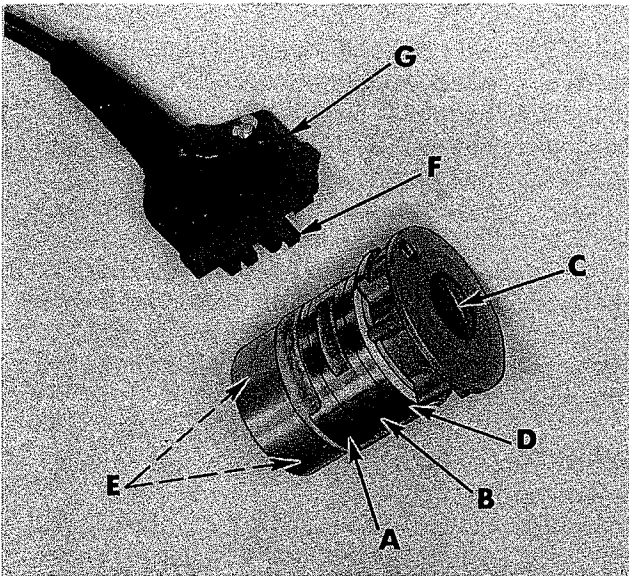
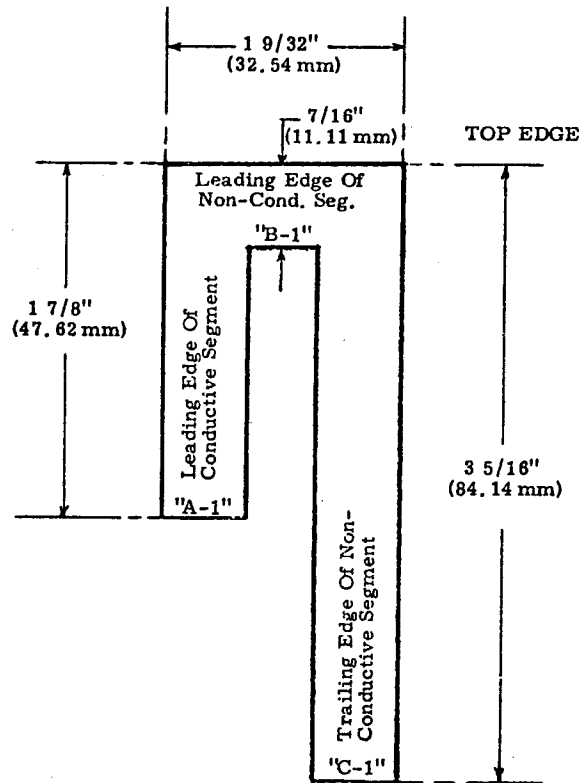

Fig. 38
Fig. 39
The synchronizer is composed of three slip rings and four carbon brushes. The hub, band (A, Fig. 38) is fixed on the synchronizer and controls the "cutting mechanism". Band (B) is adjustable by means of screw (C) and controls the "needle-up" position. Band (D) is also adjustable by means of screw (C) and controls the "needle-down" position.
Assemble the brush holder and bracket to the machine as shown in Fig. 1B and the synchronizer to the handwheel adapter. Do not tighten screws (E, Fig. 38) in the synchronizer hub, band (A) at this time. Loosen screw (C) so that bands (B and D) may be moved freely.
Figure 39 is provided to show dimensional relationships for setting the bands of the synchronizer. A plastic rule may be used for making these settings as compared to the sketch in Fig. 39. Visualize from the operator's position while seated at the machine, placing the top edge of sketch (Fig. 39) over the top of the bands until contact is made FLUSH with the edge of the brushes (NOT THE BRUSH HOLDER) and proceed as follows:
Rotate hub, band (A, Fig. 38) of the synchronizer in the operating direction until the LEADING EDGE of its CONDUCTING segment aligns with ("A-1", Fig. 39) 1 7/8 inches (47.62 mm). Secure the synchronizer to the handwheel adapter in this position by screws (E).
Rotate band (B, Fig. 38) in the operating direction until the LEADING EDGE of its NON-CONDUCTING segment aligns with ("B-1", Fig. 39) 7/16 inch (11.11 mm). WHILE HOLDING BAND (B) IN THIS POSITION, rotate band (D) in the operating direction until the TRAILING EDGE of its NON-CONDUCTING segment aligns with ("C-1", Fig. 39) 3 5/16 inches (84.14 mm).
With the power off, remove the throat plate and turn the handwheel in the operating direction until the needle has reached its lowest position; continue to turn the handwheel in the operating direction until the hook point has passed the needle by approximately 5/64 inch (1.98 mm). At this point, the NON-CONDUCTING segment of band (D, Fig. 38) should be on brush (F).